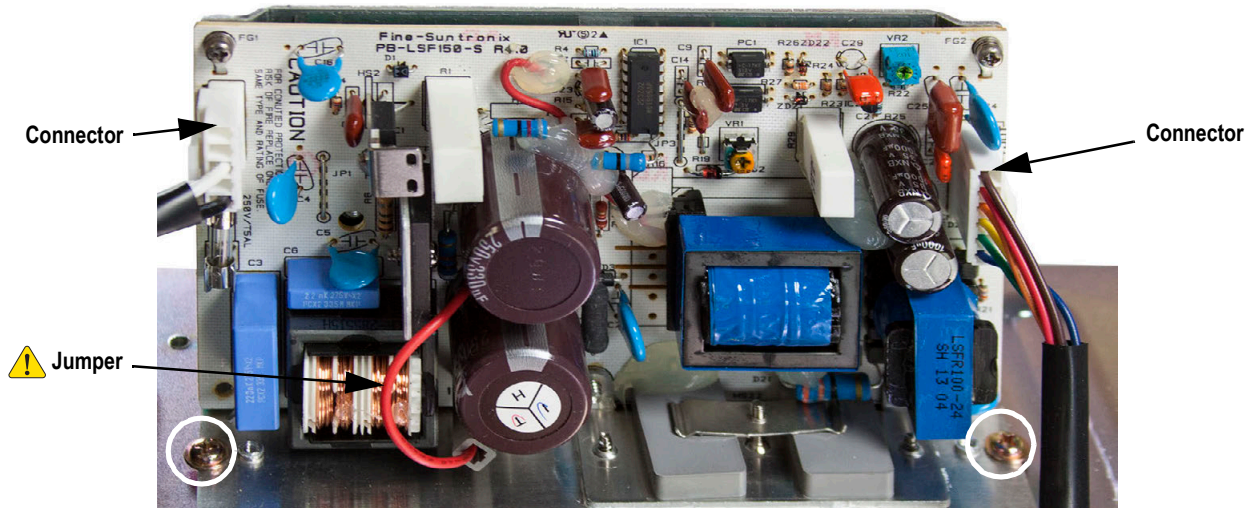

Figure 3-22. Power Supply Disassembly
12. Thread the end of the wire into the hole in the side wall (see Figure 3-22 on page 44).